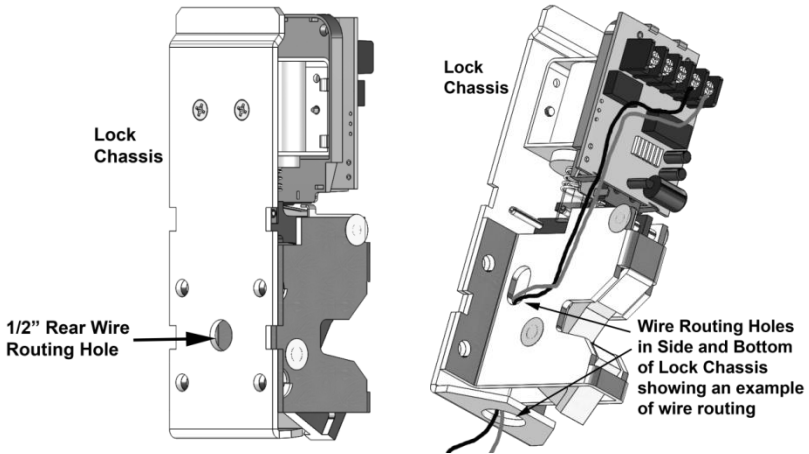

Figure 7. Wire Routing
3. **ROUTE** all electrical wiring through either the provided wire conduit coupling in the bottom of the lock chassis or through the ½" [12.7 mm] hole in the rear of the lock mounting chassis (see Figure 7, "Wire Routing").
5. **IF** there is no cylinder lock installed, **THEN FEED** wires through either side of the lock chassis (see Figure 7).